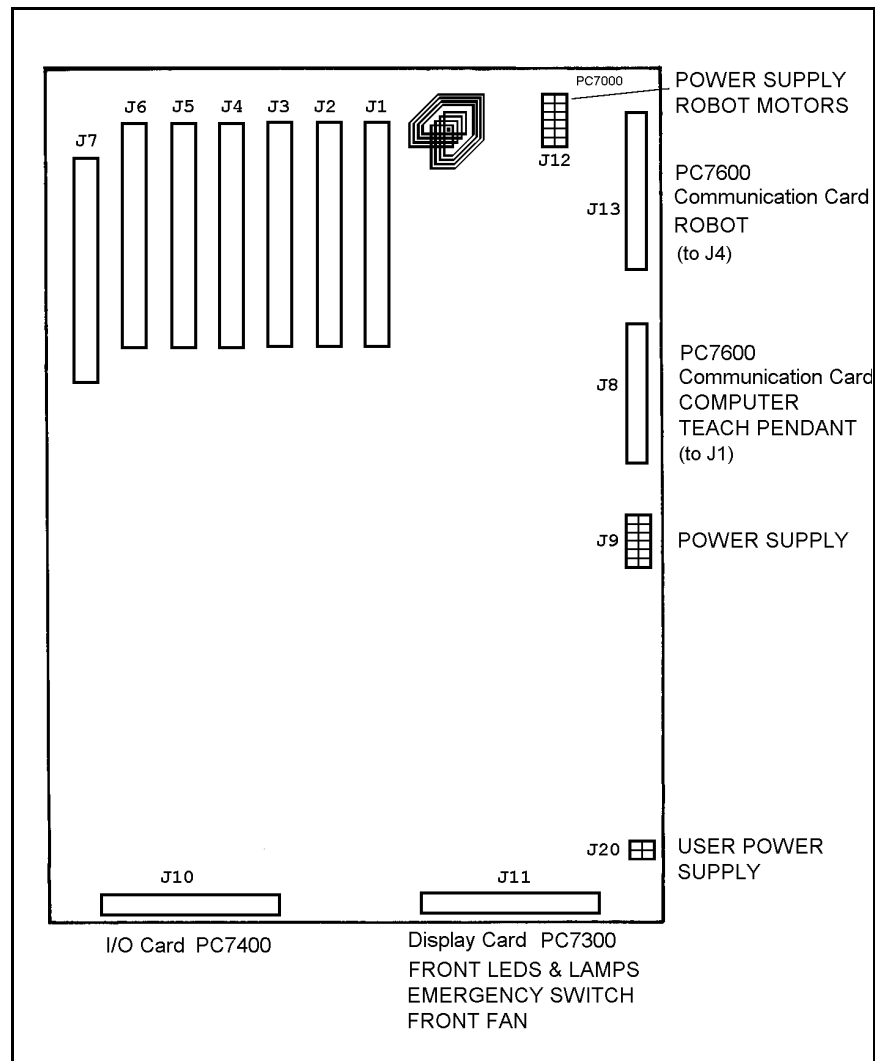

Figure 8-6: Main Board - Connectors
- Refer to Figure 8-6. Check the flat cable connection between:
- Refer to Figure 8-6. If outputs have not been switched, check the flat cable connection between the I/O card and the main board (J10).
- Refer to Figure 8-6. Check the flat cable connection between the I/O card and the main board (J10).